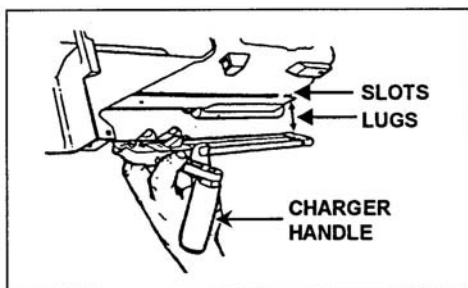

Figure 071-030-0001-16. Attachment of the charger assemblies
a. Attach the charger assemblies (both sides)(figure 071-030-0001-16).